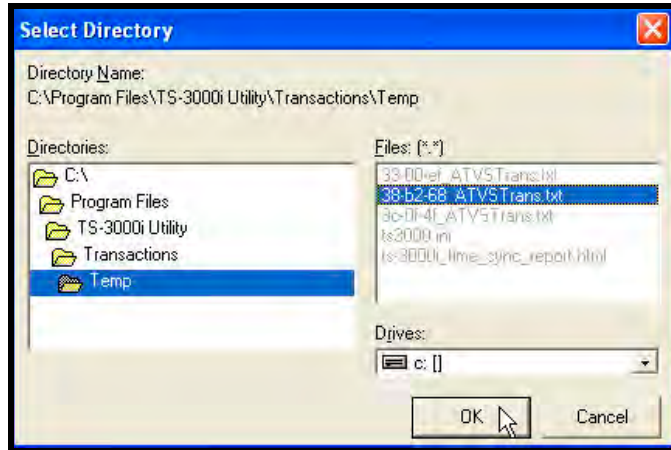

Figure 5-9: Select Report Directory
- Step 6.** You should see the files you want to use in the “Files *.*” listing on the Select Directory screen (see Figure 5-9). Click the **OK** button to close the Select Directory screen. The default location path will be: C:\Program Files\TS-3000i Utility\Transactions\Temp.